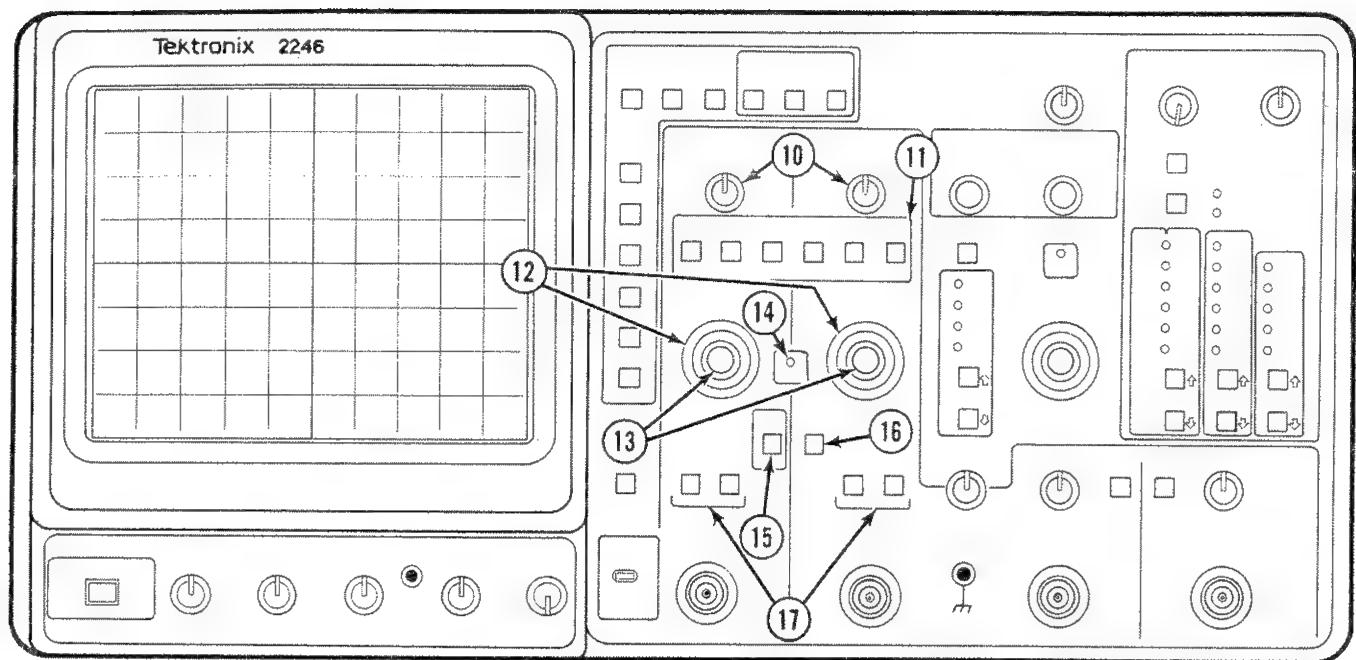

Figure 3-2. CH 1 and CH 2 Vertical Controls and Indicators.
See Figure 3-2 for items 10 through 17.